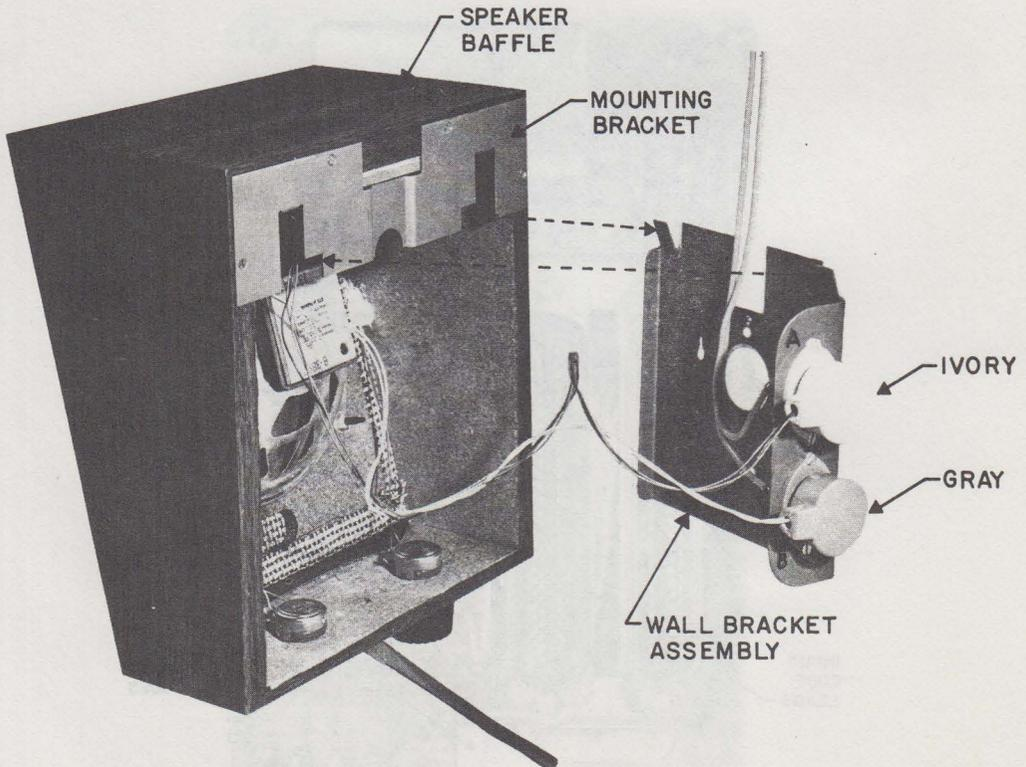

FIGURE 11. 109 A LOUDSPEAKER SET
- (3) For connections see paragraphs 4.04 and 4.05.
- (4) Connect plug A of loudspeaker into jack A of wall bracket assembly and plug B into jack B, ivory to ivory and gray to gray, respectively (Figure 11).
- (5) Slip the speaker baffle mounting bracket over the mounting clips on the wall bracket assembly and pull the speaker down until it is firmly held (Figure 11).
4.04 Connect +V, COM, and DSS to jack A (ivory) of the wall bracket assembly (Figure 11) per Table B.
4.05 If music is provided, connect terminals 5 and 6 of the 33A voice coupler to terminals R and G of jack B (gray) of the wall bracket assembly (Figure 11) using inside wire.